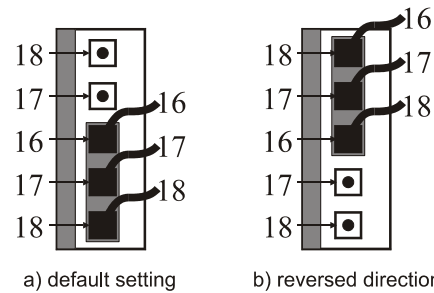

Fig. 9. Replugging the feedback potentiometer's cables
- Replug the feedback potentiometer's cables as shown in Fig. 9.